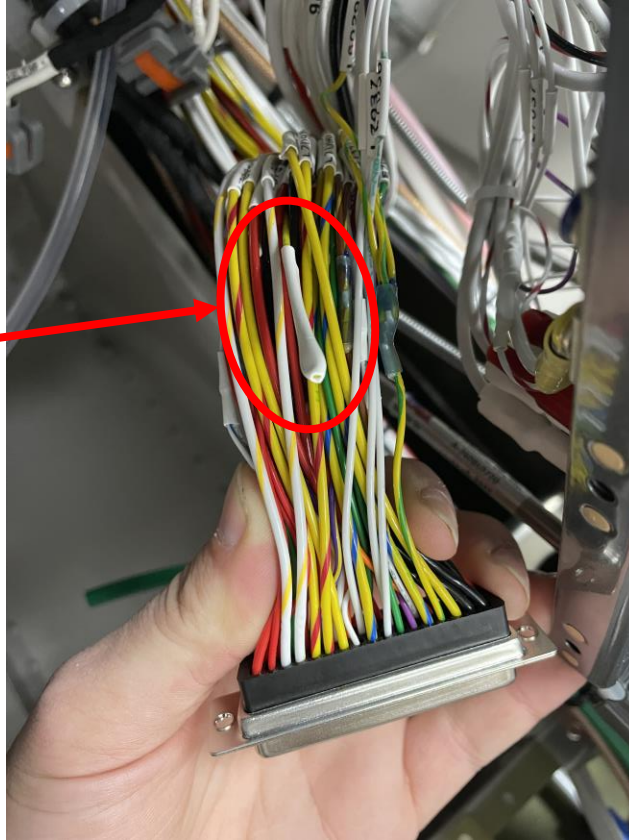

FIGURE 1: EXAMPLE OF CUT WIRE
Step 4: Apply a 1" piece of heat shrink to the wire, ensuring the end is completely covered. See Figure 1.